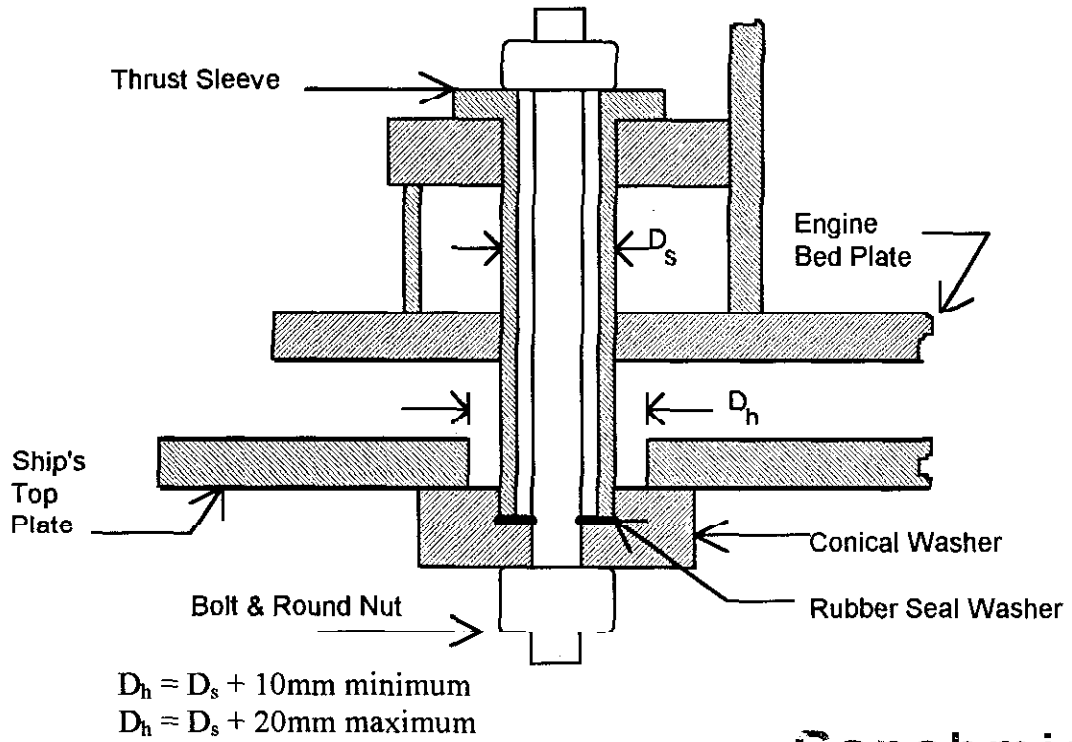

Figure 1
2. Holes for thrust sleeves should be drilled with a diameter of  $D_h$ .  $D_h$  should equal the outside diameter of the thrust sleeve,  $D_s$ , plus 10mm to 20mm. This will provide for a clearance around each thrust sleeve of 5mm to 10mm. See Figure 1.